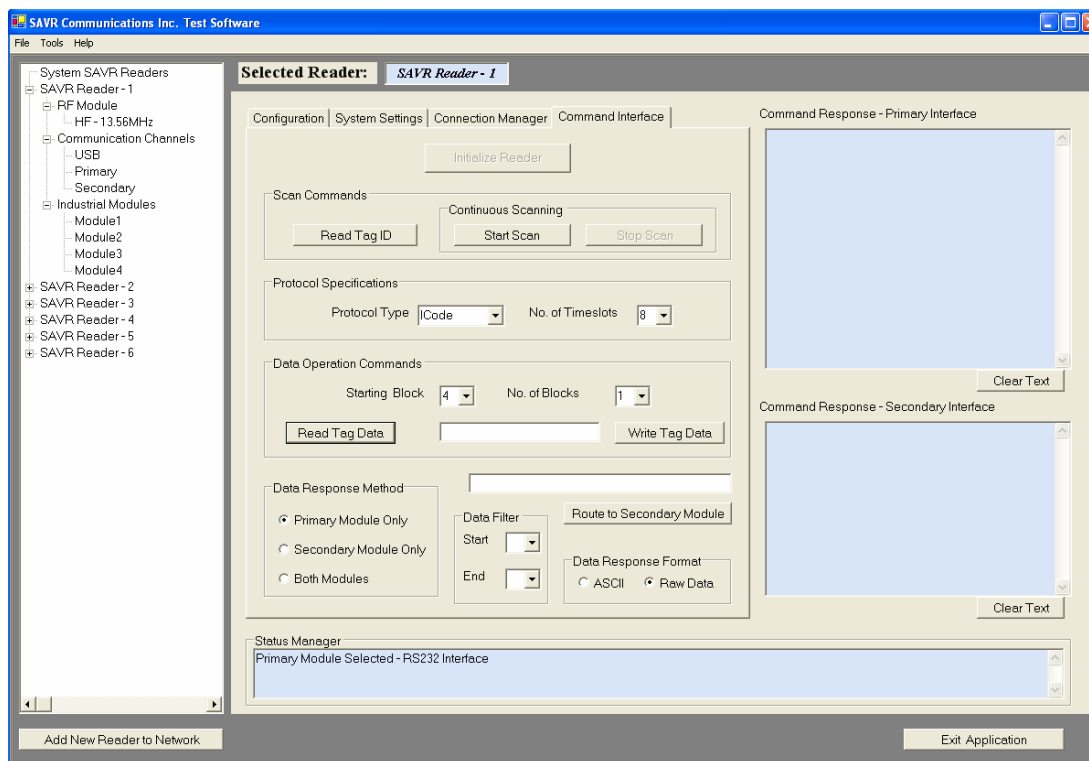

Figure 5
**“Command Interface” Tab (Figure 5):** Once the connection to the primary communication channel/ module of the RFID reader is established, all the commands to the RFID reader are given through the Command Interface Tab. (Note: RFID reader takes commands only over the primary communication channel.)